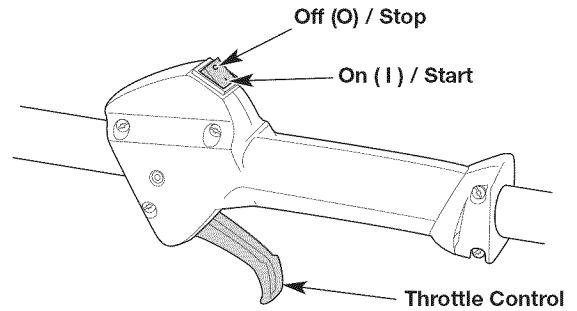
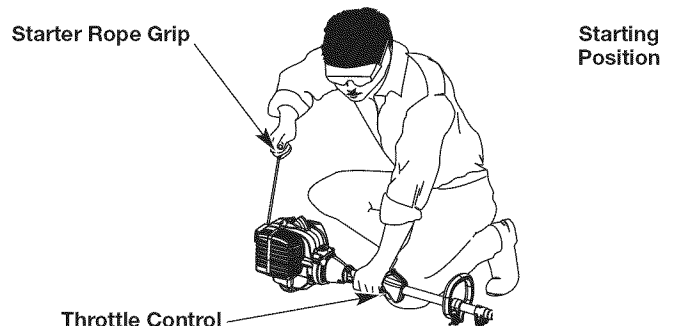

Fig. 8
Fig. 11
**WARNING:** Avoid accidentally starting the unit. To avoid serious injury, the operator and the unit must be in a stable position when pulling the starter rope (Fig. 11).
**NOTE:** There is no need to turn the unit on. The On/Off switch is in the ON ( I ) position at all times (Fig. 8).
5. Crouch in the starting position (Fig. 11).
6. Squeeze the throttle control (Fig. 8) and pull the starter rope with a controlled and steady motion **5 times** (Fig. 11).
2. Press and hold the On/Off switch in the OFF (O) position until the engine comes to a complete stop (Fig. 8).
**NOTE:** There is no need to turn the unit on. The On/Off switch is in the ON (I) position at all times (Fig. 8).
7. Squeeze and hold the throttle control (Fig. 8). Run the Speed Start™ accessory for 2 seconds.